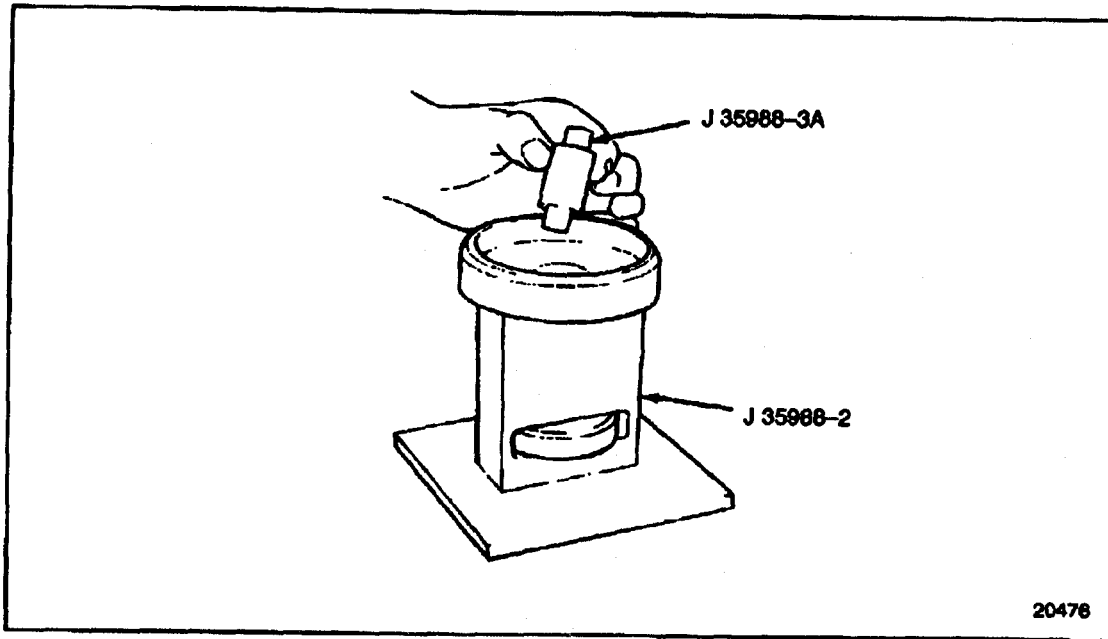

Figure 4-26 Support Installation (GCM)
12. Install J 35988-3A , part of tool set J 35988-B, to the fixture tool. See Figure 4-26.